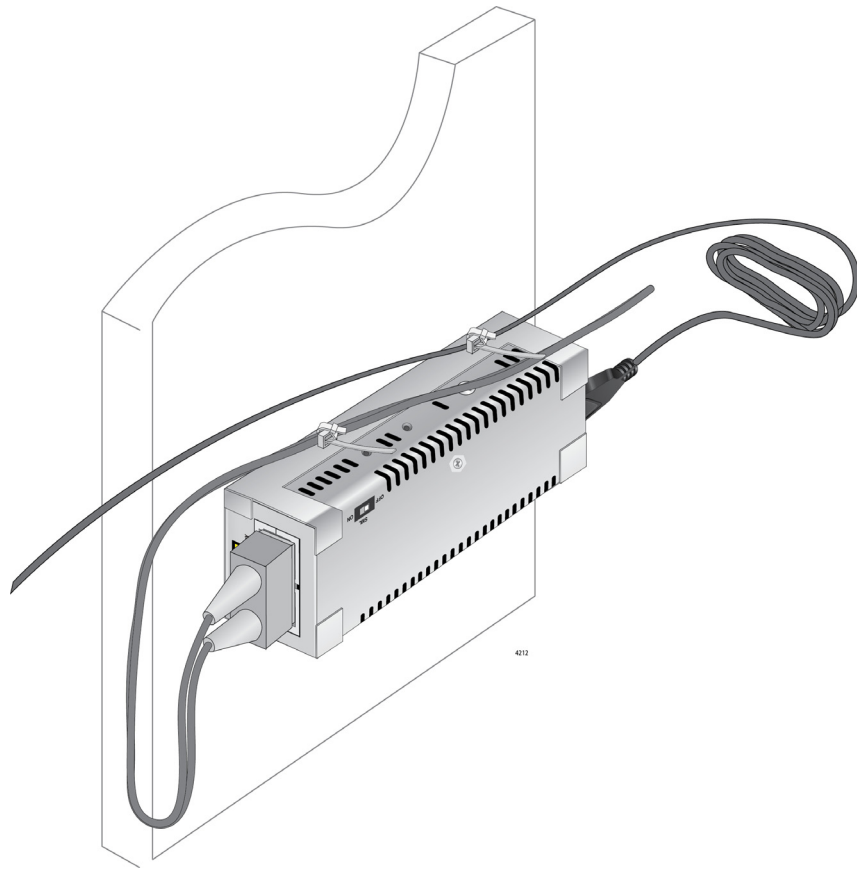

Figure 26. Securing the Fiber Optic Cable Tie
6. Secure the fiber optic cable to the media converter using the other cable tie as described below and shown in Figure 26: